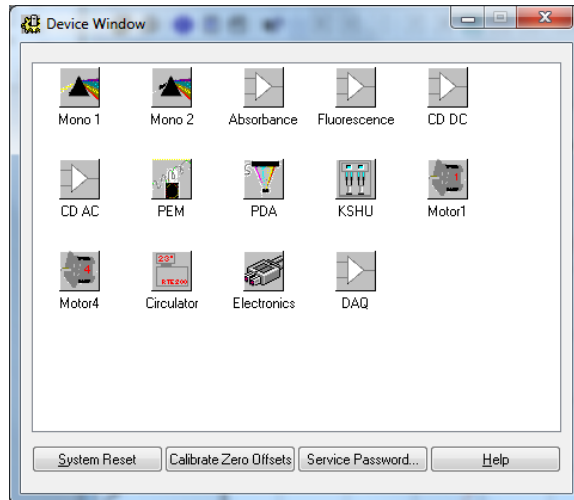

Figure 4.3 - Devices window
4. Select 'view' from the main control panel, then 'devices'. Double click on the PDA icon which appears in the next window (Figure 4.3). This area of the software is protected by a service password. Please contact support@photophysics.com for assistance.